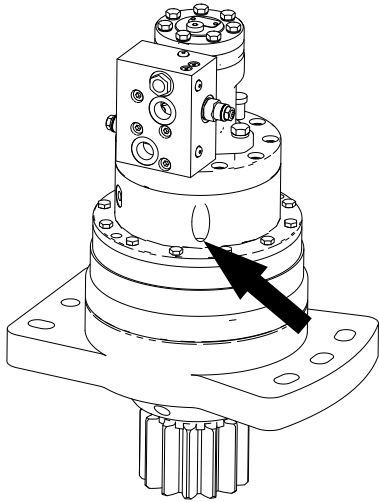

Figure 5-14
3. As indicated by the arrow Fig 5-14 , page 5-22, insert 0.04mm feeler gauge in between the bolt and washer.
3. As indicated by the arrow **Fig 5-14 , page 5-22**, insert 0.04mm feeler gauge in between the bolt and washer.
6. As indicated by the arrow **Fig 5-14 , page 5-22**, insert 0.04mm feeler gauge in between the bolt and washer.